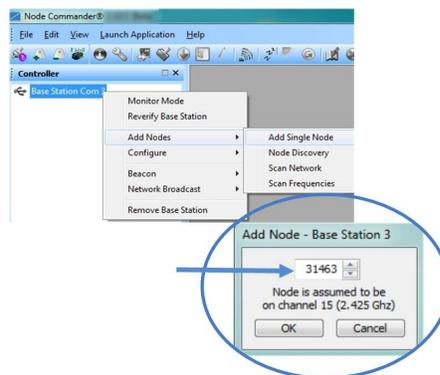

Figure 14 - Adding a Node by Address
1. To add a node by address, right-click on the gateway name in the Controller window, and select Add Node > Add Single Node (*Figure 14 - Adding a Node by Address*).